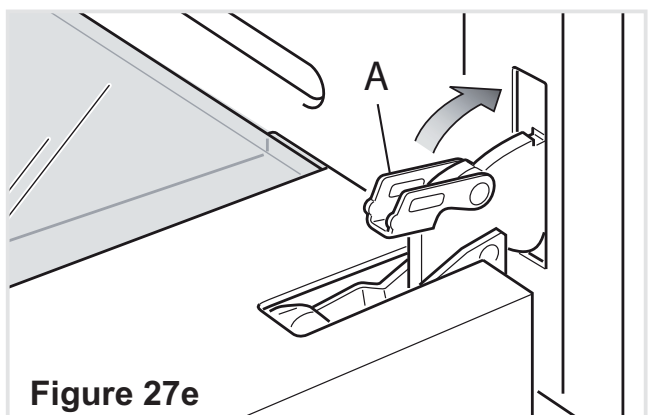

Figure 27e
- Unlock the oven door by opening it completely and closing the lever “A” on the left and right hinges (Fig. 27e).